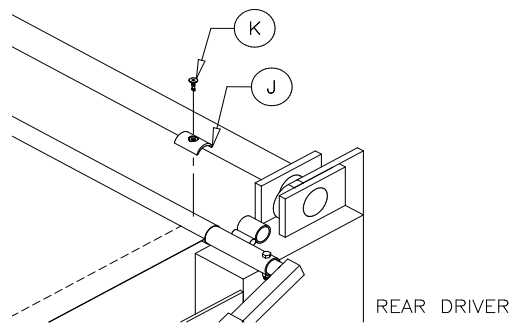

Figure 19
Center the rear tarp pocket on the rear pivot arm crossmember. Position a pvc rear tarp clamp (J) on both edges of the tarp material. Fasten both tarp clamps to the tarp and rear pivot arm crossmember with the #10-24x3-4 wafer head screws (K) provided (see Figure 19).